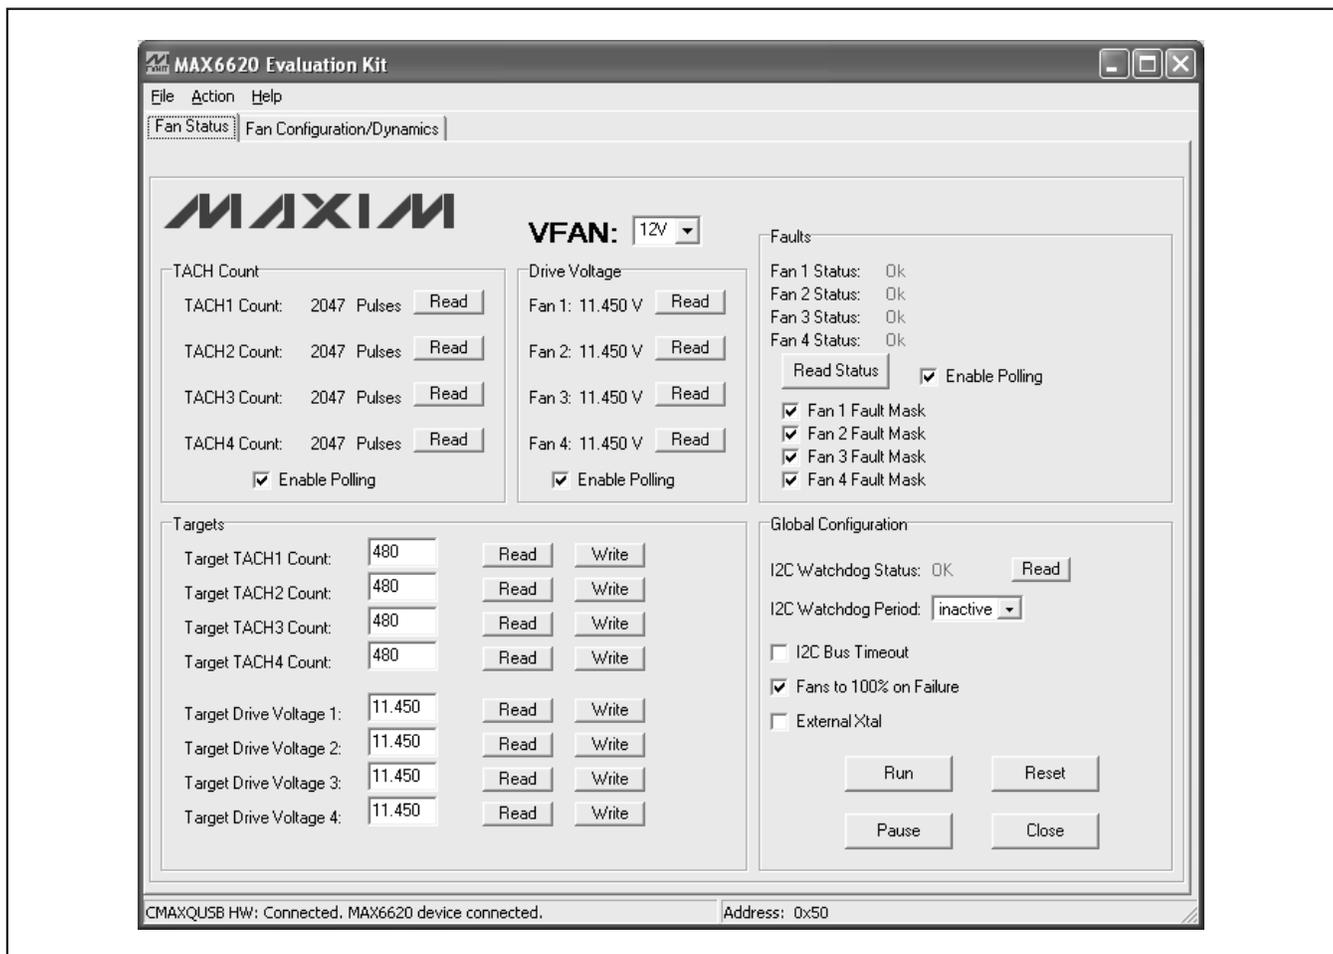
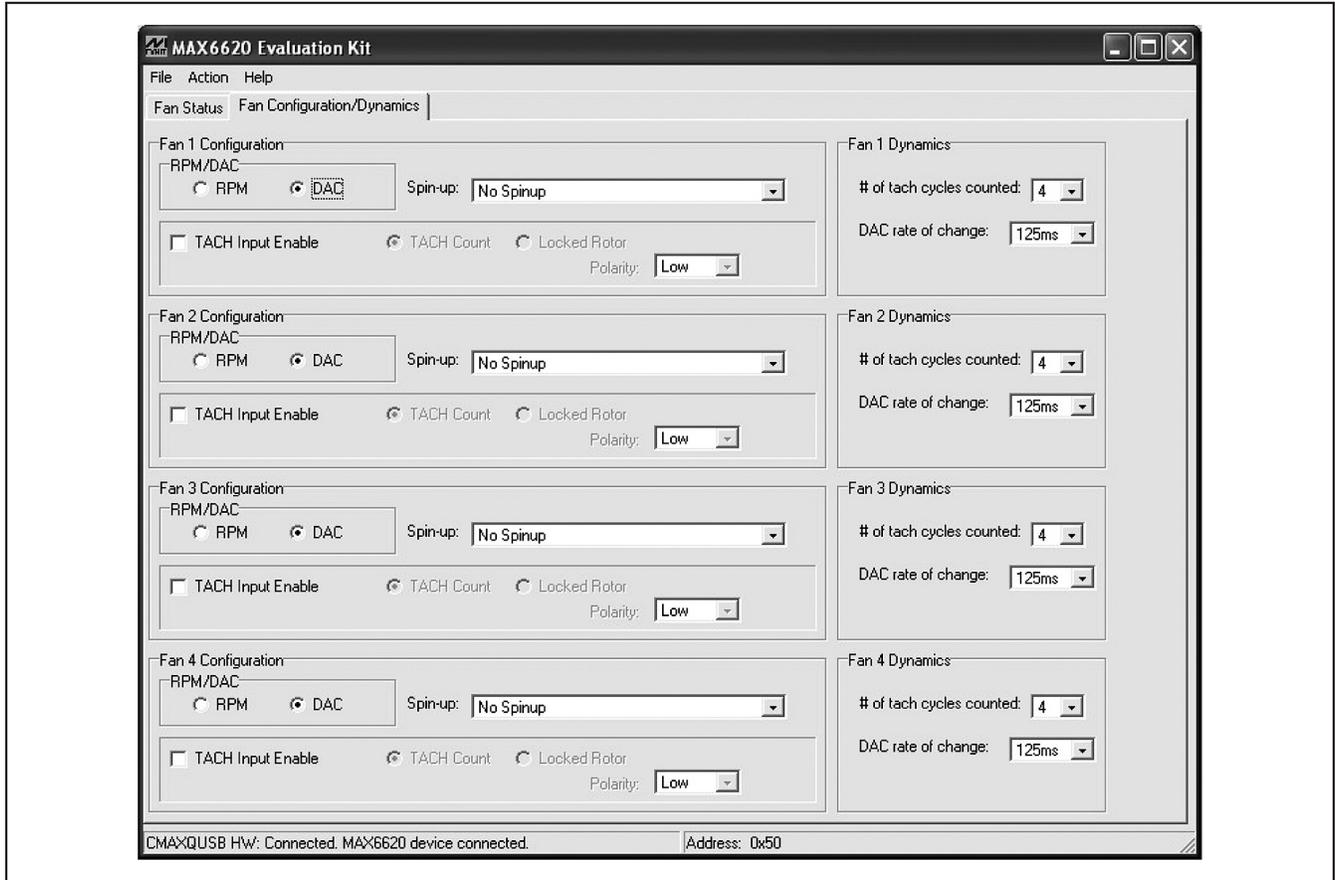

Figure 1. MAX6620 EV Kit Software—Fan Status Tab
Figure 2. MAX6620 EV Kit Software—Fan Configuration/Dynamics Tab
- 10) Normal device operation is verified when **C Maxwell HW: Connected. MAX6620 device connected.** is displayed at the bottom left of the MAX6620 EV kit main window (Figure 1).
The program's main window contains two tabs, **Fan Status** and **Fan Configuration/Dynamics**, which provide controls for the MAX6620 EV kit software's configurable features. The **Fan Status** tab sheet (Figure 1) provides controls for the **Global Configuration** register, **TACH Count**, **Drive Voltage**, **Targets**, and **Faults**. The **Fan Configuration/Dynamics** tab sheet (Figure 2) provides controls for **Fan Configuration** and **Fan Dynamics**. A status box is also provided at the bottom of the program's main window and is used to verify command module and device connectivity.
The MAX6620 EV kit software can be configured to work with 5V or 12V DC fans. Manually select the appropriate fan voltage from the **VFAN** drop-down list (Figure 1). The default setting is for use with 12V DC fans.
The **Fan\_Configuration** group boxes (Figure 2) configure the corresponding fan's **Spin-up** conditions, **TACH Input Enable** settings, and set either RPM or DAC mode.
There are two methods for communicating with the MAX6620, through the normal user-interface panel (Figures 1 and 2), or through the SMBus commands available by selecting the **Interface Diagnostic Window** menu item from the **Action** menu bar. The **Maxim Command Module Interface** window pops up and includes a **2-wire interface** tab that allows for execution of the **SMBusSendByte()** and **SMBusQuick()** commands.